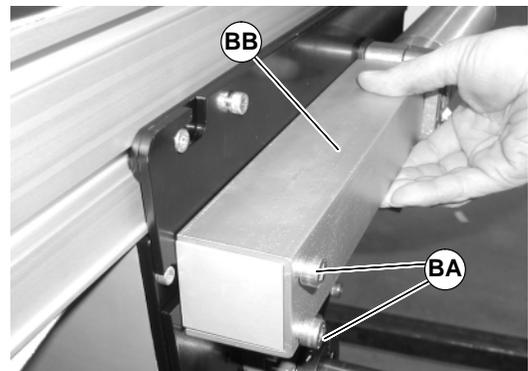

Figure 25
5. Remove screws (BA of Figure 25) and tensioning guards (BB) from both sides of center drive.